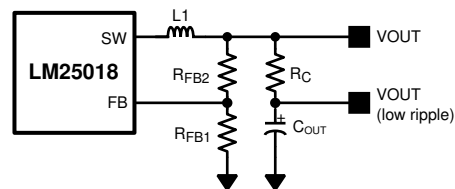

Figure 7-1. Low Ripple Output Configuration
This regulator regulates the output voltage based on ripple voltage at the feedback input, requiring a minimum amount of ESR for the output capacitor (C_{OUT}). A minimum of 25 mV of ripple voltage at the feedback pin (FB) is required for the LM25018. In cases where the capacitor ESR is too small, additional series resistance can be required (R_C in Figure 7-1).
For applications where lower output voltage ripple is required, the output can be taken directly from a low ESR output capacitor, as shown in Figure 7-1. However, R_C slightly degrades the load regulation.